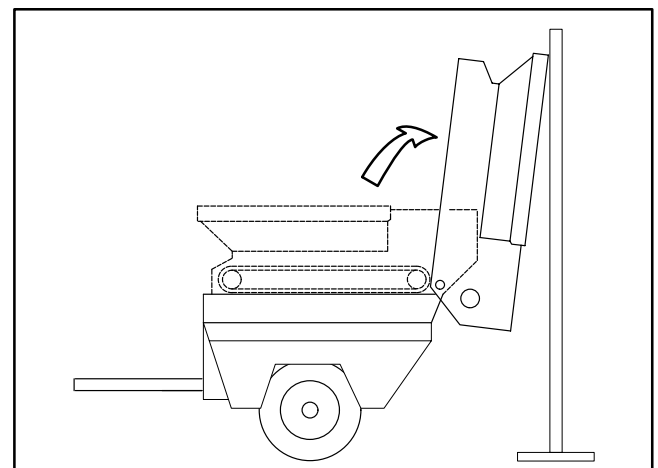

Figure 8
B. Remove fasteners that secure hopper to frame. Pivot hopper rearward and lean against wall or post (Fig. 8). Do not allow hopper to rest against rear of machine as damage may result to brush or other components.
IMPORTANT: Make sure hopper is pivoted beyond center and secured to wall or post to prevent it from accidentally falling on work area (Fig. 8).